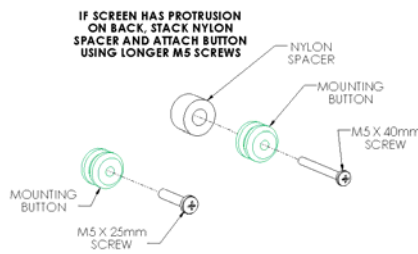
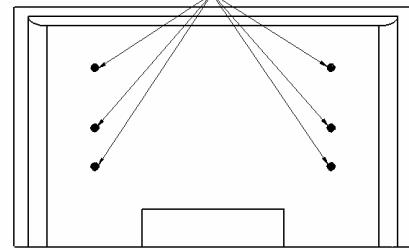

Figure 4
Figure 5
2. Attach mounting buttons to the display using the M5 x 25mm screws provided (see Figure 4 & Figure 5). If screen has protrusion on back, stack .5" nylon spacer with button and attach using the M5 x 40mm screws.